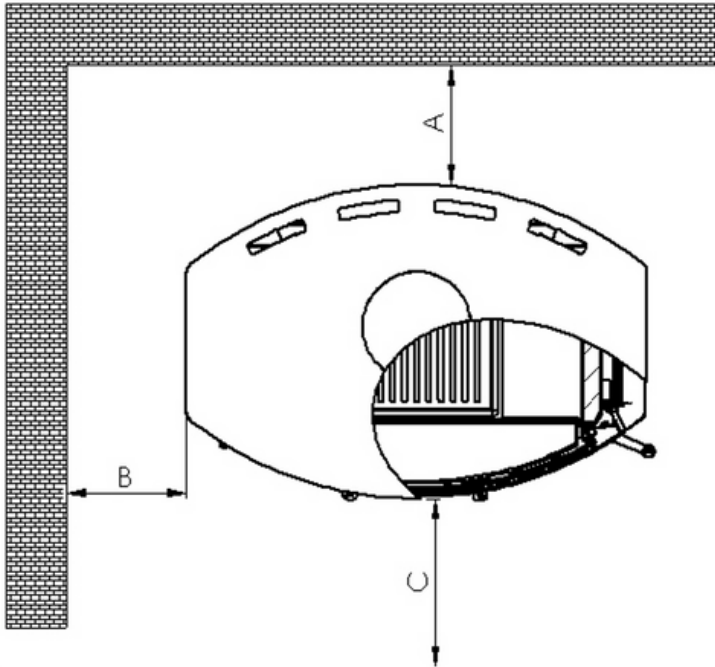

FIGURE 7.
When installing the stove, it is necessary to adhere to the rules of fire safety. Figure 7 and Table 1 show the minimum required distances between the stove and the walls/floor.
1. Removing the top plate (or Ceran glass) – Figure 7: The top plate is removed by opening the furnace door and lifting the plate manually through the furnace opening.